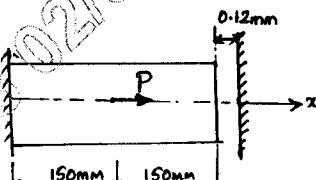

Fig Q4(b)
- b. A bar having uniform cross sectional area of  $300\text{mm}^2$  is subjected to a load  $P = 600\text{kN}$  as shown in Fig Q4(b). Determine the displacement field. Consider the bar to be made of two elements. Take  $E = 200\text{GPa}$ . (08 Marks)